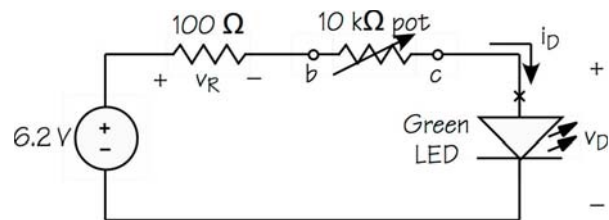

Fig. 1-LED test circuit
2. Build the circuit of Fig. 1, paying special attention to a number of new things: